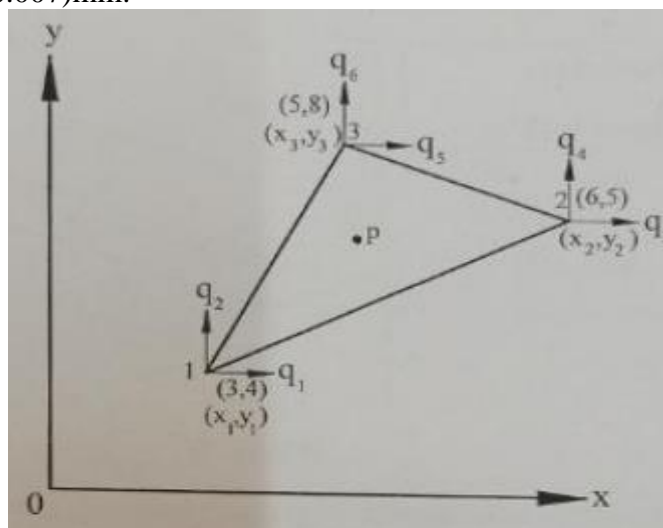

Fig.5b
b) Compute the strain displacement matrix for the element shown in Fig 5b. Also determine the element strains. All dimensions are in mm (q)= (0.002,0.001,0.001,-0.004,-0.003,0.007)mm.